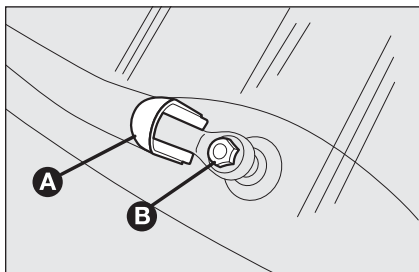

fig. 17
- raise the cover **A**-fig. 17 and remove the arm from the car, slackening the nut **B** that fastens it to the pivot pin;